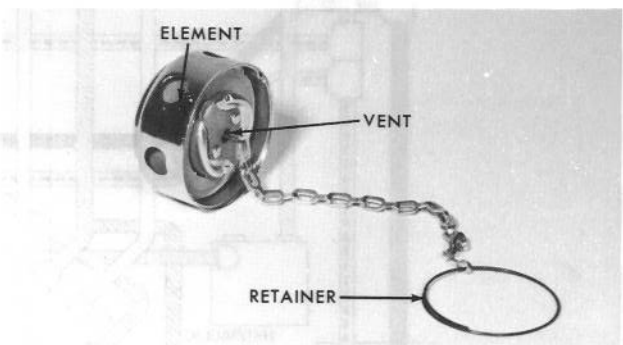

Figure 15
5. Inspect the element in the reservoir breather cap whenever oil is changed. Clean element if it is dirty. Remove the cap assembly by uncoiling the retaining spring in the filler tube. Wash the element in kerosene or solvent. Blow compressed air through the center vent hole to clean the element from the inside out (Fig. 15).